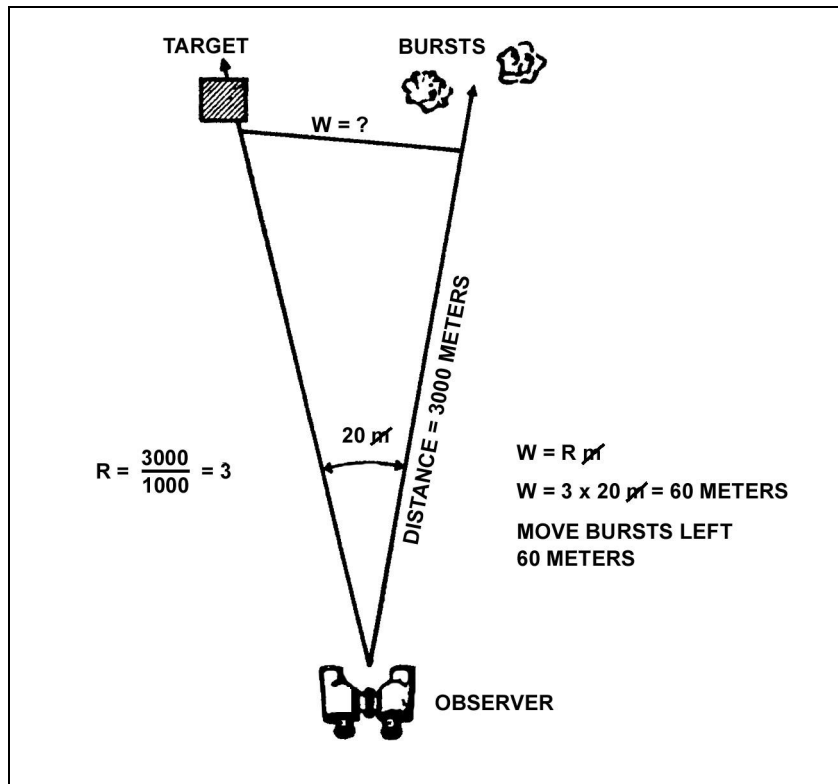

Figure 5-8. Computation of direction shift.
c. The observer uses the mil relation in computing direction shifts as indicated in Figure 5-8.